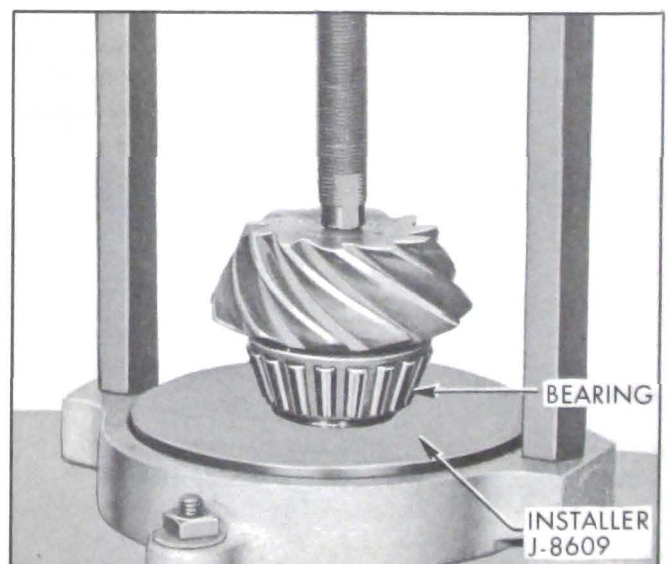

Figure 6-23—Installing Rear Pinion Bearing
3. Place original pinion shim on pinion and install rear pinion bearing using Installer J-8609 in an arbor press or as shown in Figure 6-23.